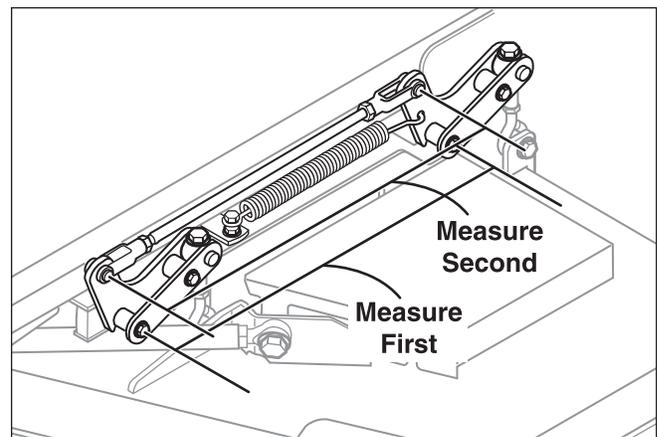

Figure 39. Check Lift Rod Timing
2. To check lift rod timing measure and record the distance between the lift pivots and the rod pivots. Repeat for other side of the unit. See Figure 39.